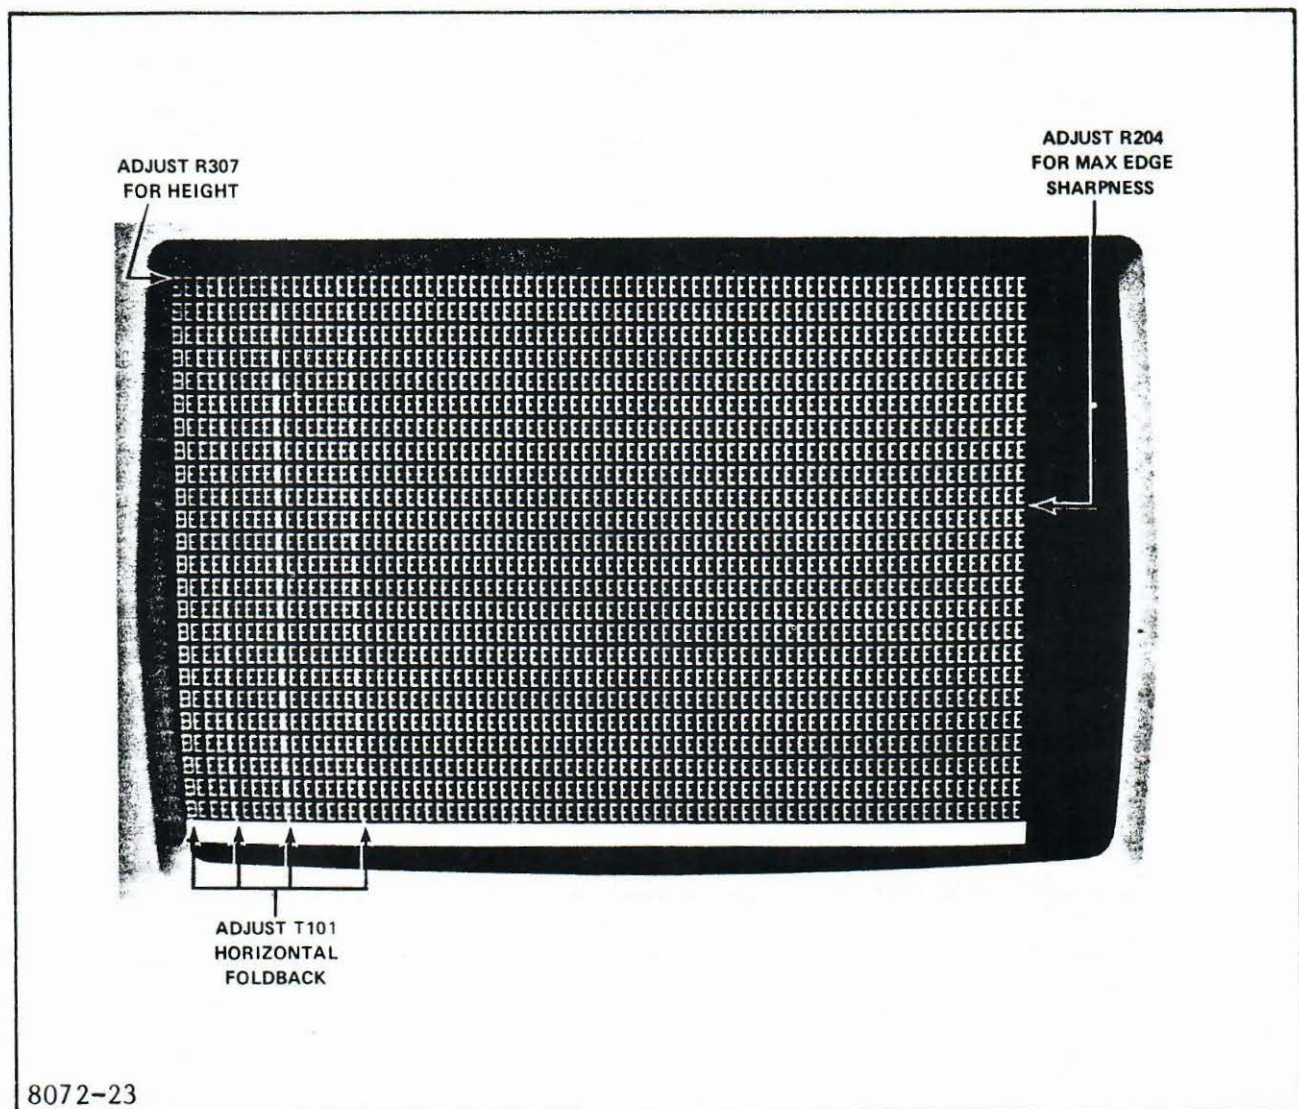

Figure 4-6. E Test Pattern
10. Adjust T101-HORIZONTAL OSCILLATOR COIL on the Video assembly to center the test pattern on the screen. Ensure that no foldback occurs at the left or right display edges (see figure 4-6).